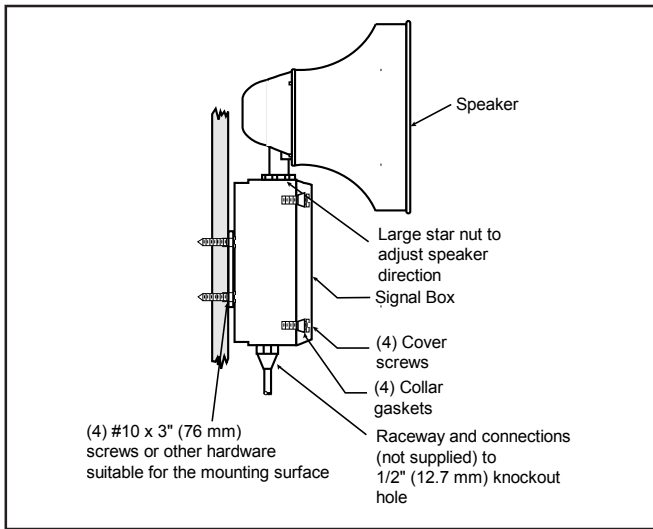

Figure 2. Adaptatone Mounting
- Mount Adaptatone as shown in Figure 2.
- Flat Surface Mounting.** Secure unit to mounting surface using the (4) mounting holes in the mounting plate on the rear of the box. Use the #10 x 3" (76 mm) wood screws (furnished loose) or other hardware (not supplied) suitable for the mounting surface.
- Rigid Pipe Mounting.** Loosen the (4) cover screws from the signal box and lift off signal box cover.
- To adjust speaker direction, loosen large star nut (Figure 2) and turn speaker to the approximate desired position. Retighten nut and turn speaker slightly clockwise until locked into place.